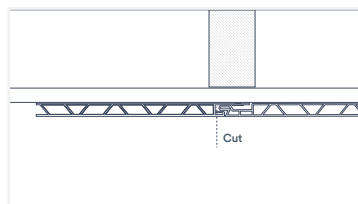

Fig. 32
4. On the groove side that remains, make another cut beside the panel joint (Fig. 32).